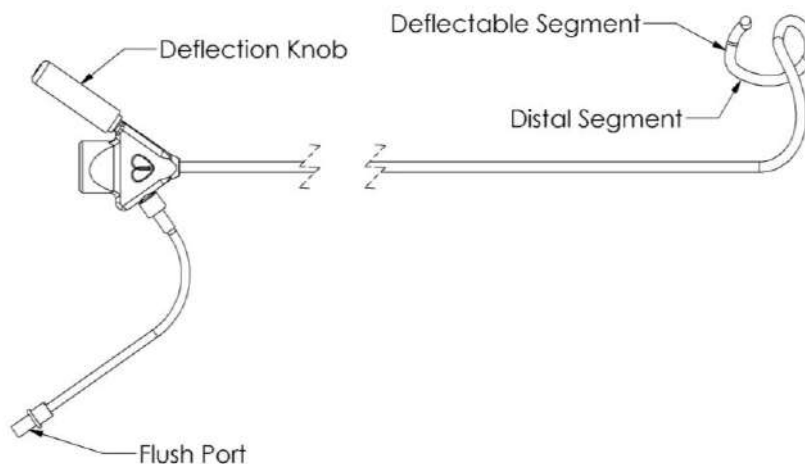

Figure 2. Guide
- **Guide** – a shaped catheter (O.D. 18 F/6.0 mm, Working Length 100 cm) to provide access to the anterior aspect of the sub-valvular space. The Guide orients, directs, and provides support for the other AccuCinch System catheters. A deflectable section near the distal end allows the operator to adjust the Guide curvature using the proximal deflection knob at the handle. The Guide is available in several shapes to accommodate anatomical variations among patients. Refer to **Table 2** below for Guide selection. See **Figure 2**.